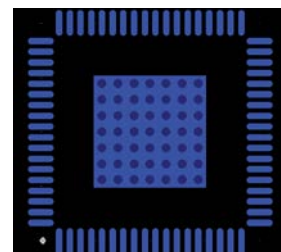

Figure 85. Exposed Pad Layout Example—Top View
- Place vias such that all layers of copper are connected, allowing for efficient heat and energy conductivity. For an example, see Figure 85, which shows 49 vias arranged in a 7 $\times$ 7 grid in the pad area.